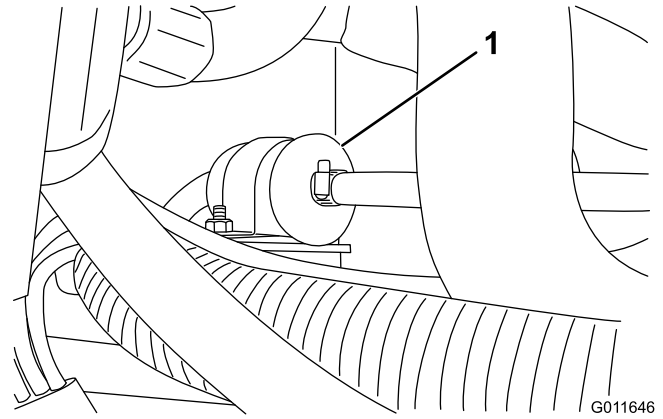

Figure 50
- Loosen the hose clamps at both ends of the filter and pull fuel lines off filter (Figure 50).